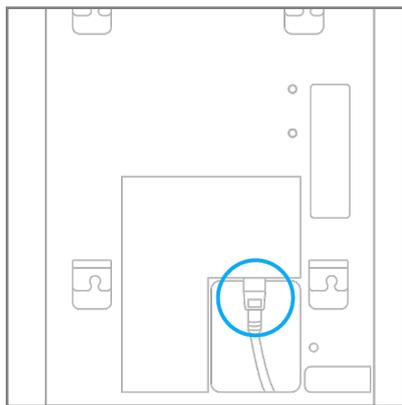

Figure 20.
Step 9: Plug the power cable into the power supply terminal on the Swift UV (Figure 20).